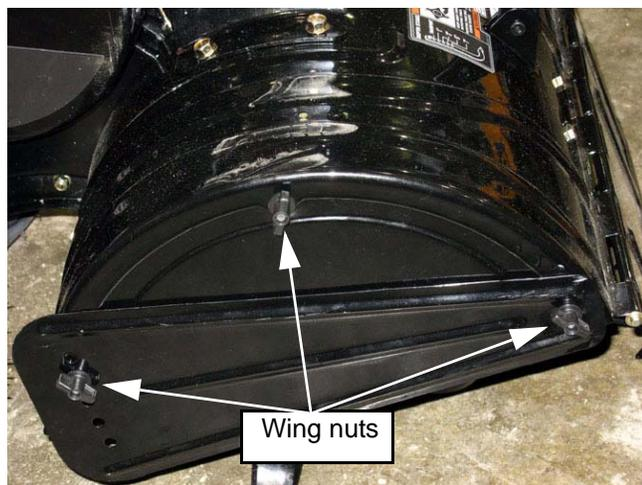

Figure 6.2
1. Remove the three plastic wing nuts that hold the side shields and cover plates on each side of the tine cover. See Figure 6.2.